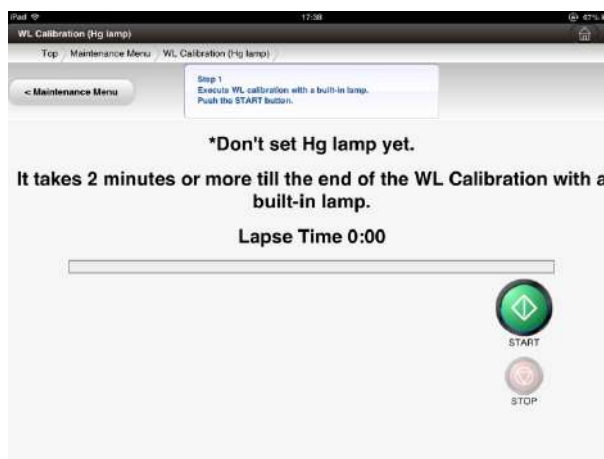

Fig. 6-47 Wavelength Calibration Execution Screen
- (2) Press the  [Wavelength Calibration (Hg lamp) button] on the Maintenance screen. The Wavelength Calibration Execution screen (Fig. 6-47) is displayed. **Do not set** a low-pressure mercury lamp at this point. Calibrate the Wavelength by using the built-in lamp at first.